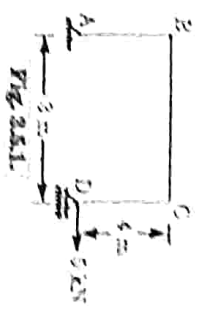

Fig. 3.5.1.
- Q.5. Determine the horizontal displacement of the roller end  $D$  of the portal frame shown in Fig. 3.5.1.  $EI$  is  $8000 \text{ kN}\cdot\text{m}^2$  throughout.